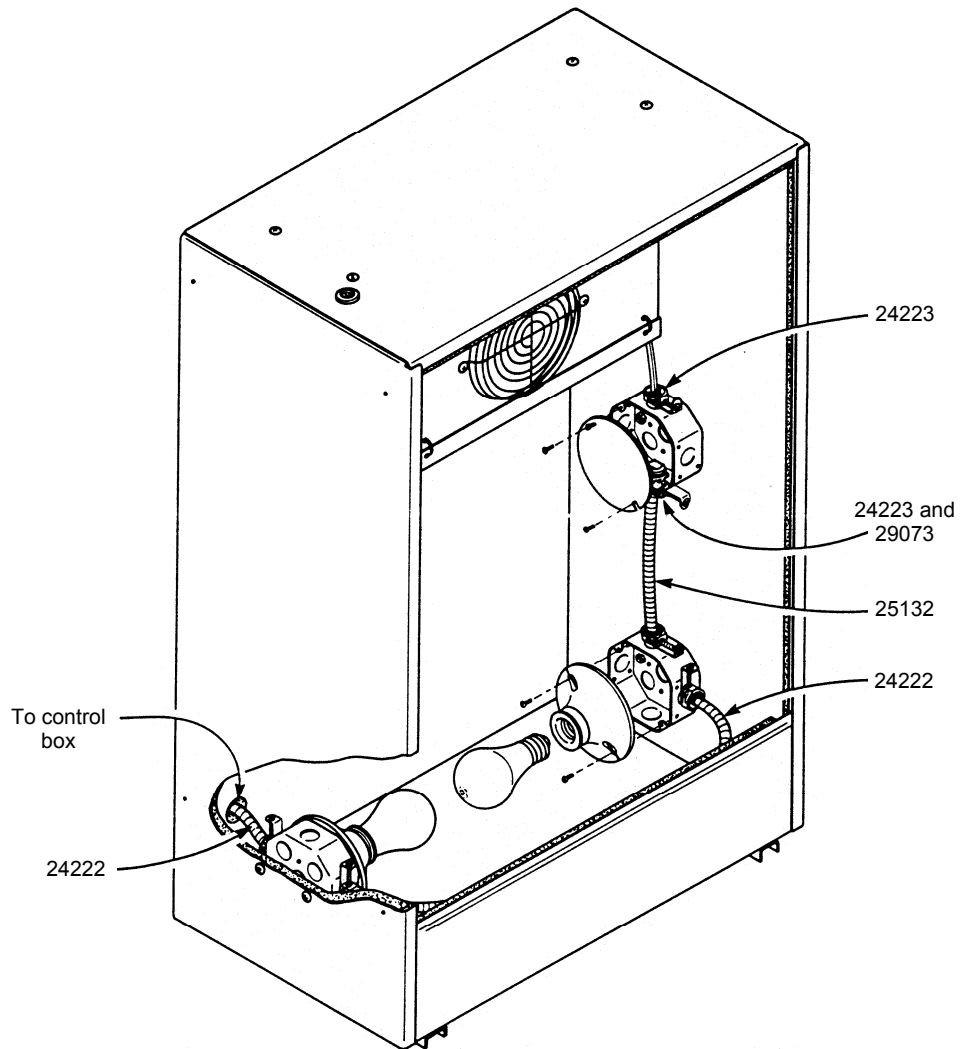
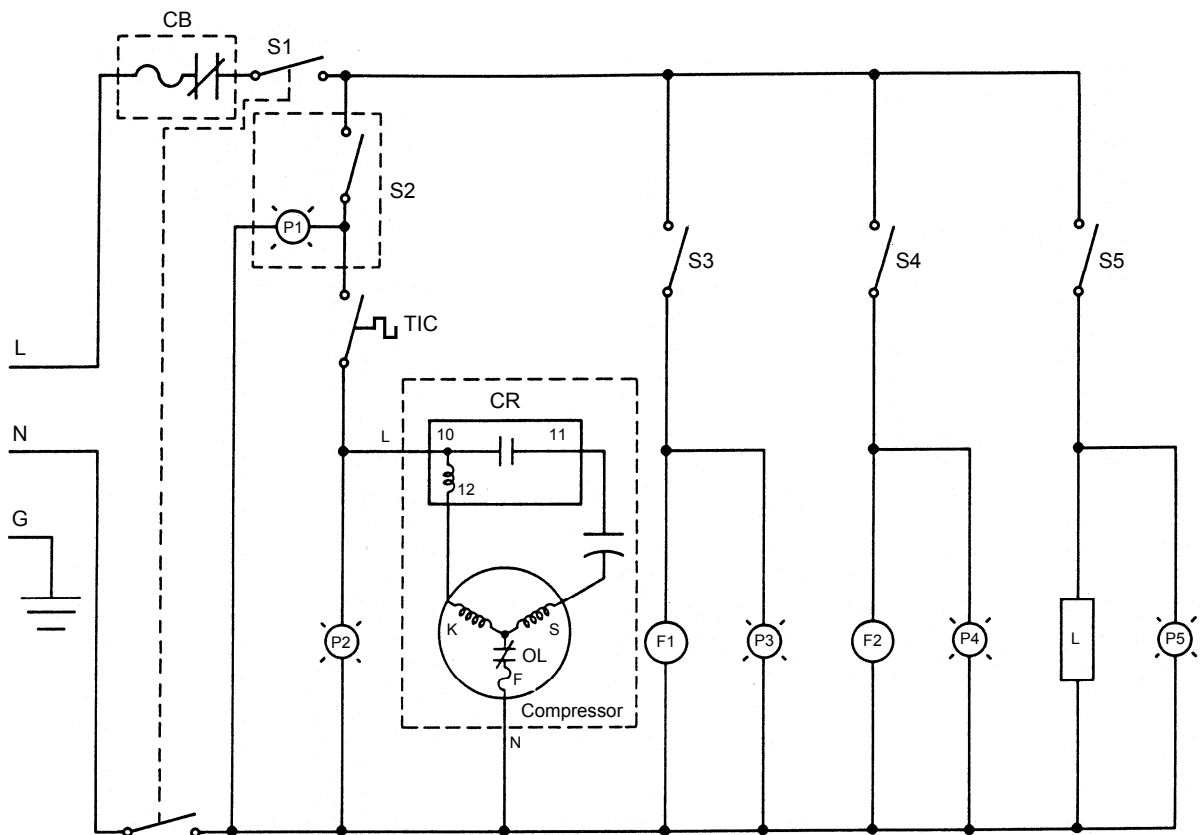
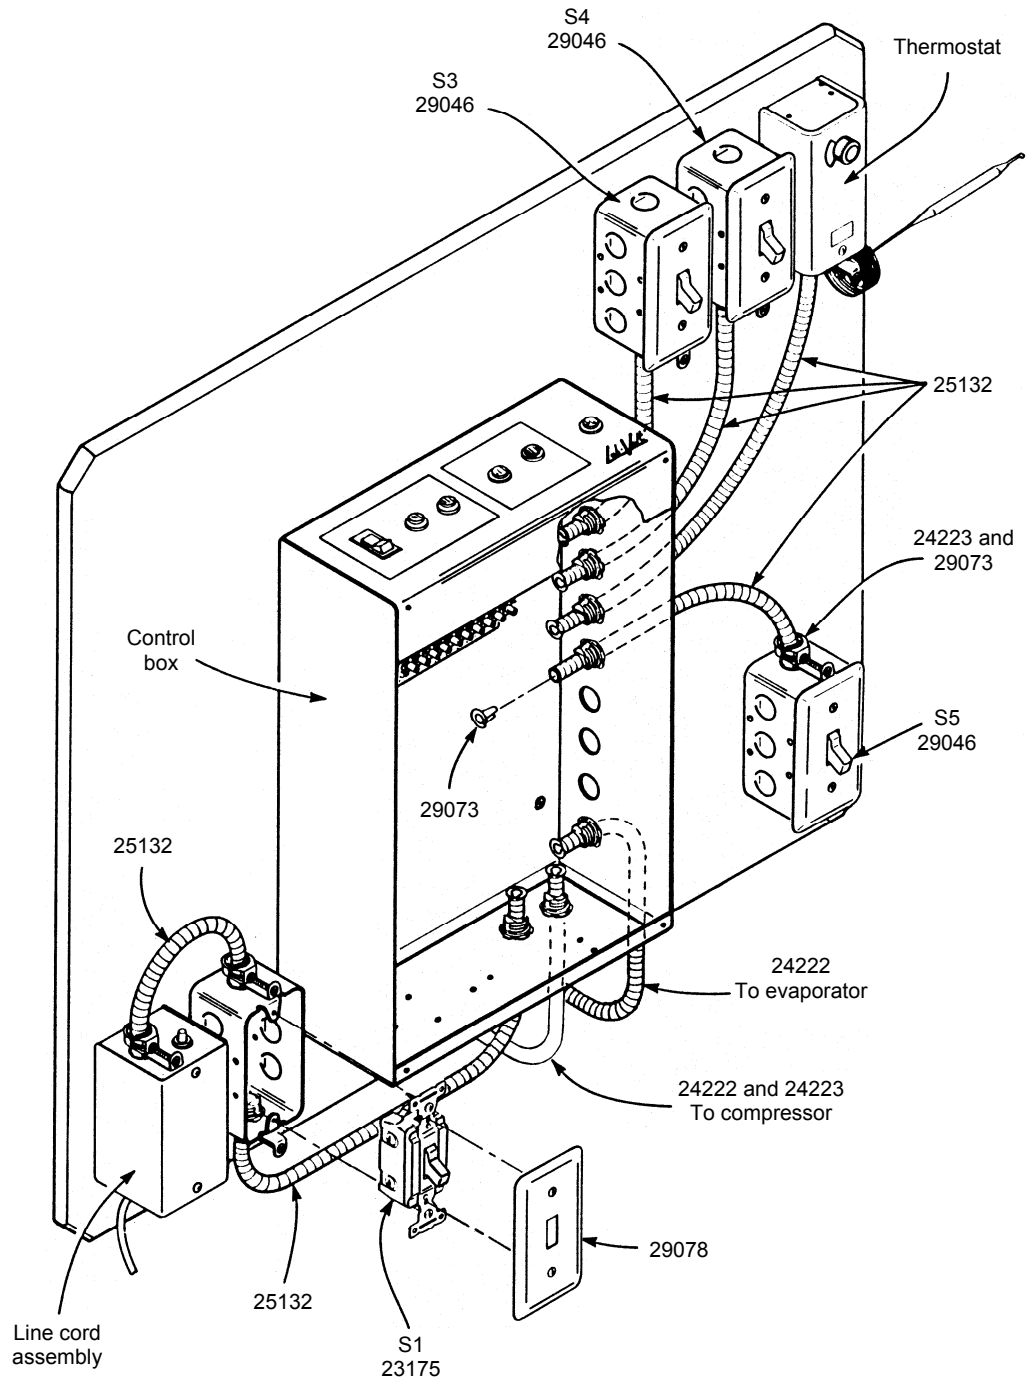

Figure 1-8. Heat load and evaporator.
Figure 2-4. Electrical schematic diagram of a capillary tube system.
Figure 2-5. Suggested layout for switches.
3. Figure 1-8 shows the placement of the electrical components in the evaporator chamber. Mount these components but do not wire them yet.
The switch S1, shown in Figure 2-4, is used as the main switch. When turned on, all other components are energized through their appropriate circuits.
1. Identify the different electrical components in the schematic diagram of Figure 2-4, and locate them in the boxes already mounted. A suggested layout for the switches is shown in Figure 2-5. The heat load and evaporator wiring is shown in Figure 1-8.